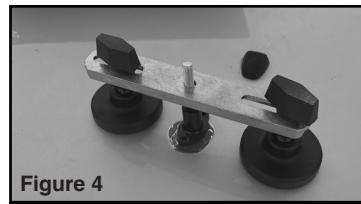
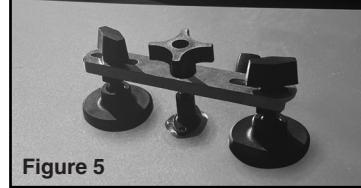
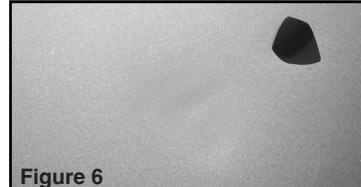

Figure 4
Figure 5
Figure 6
- Place Cross Bar (5) over Pull Tab, setting Adjusters (6) to desired length. See figure 4. Thread Wing Nut (7) onto the end of the Pull Tab. Continue to twist Wing Nut until the dent is raised. Stop when the dent returns to normal surface level. See figure 5.
- Unthread the Wing Nut and remove Cross Bar and Pull Tab from the surface. Apply two drops of isopropyl alcohol (not included) to the spot of dried glue. Use the plastic Scraper (8) to peel off the softened glue patch.
- If a high spot has been created, use a hammer (not included) and lightly tap Dowel (9) against raised spot until desired smoothness is reached. See figure 6.